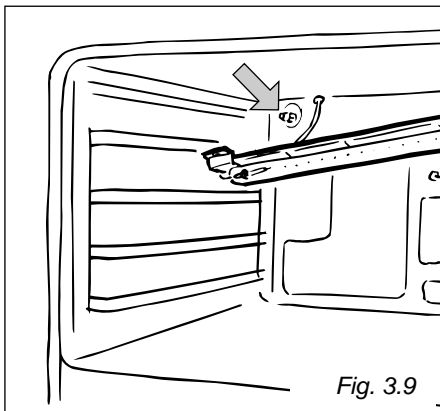

Fig. 3.9
- Using a 10 mm box spanner, unscrew the injector (indicated by the arrow in fig. 3.9) and replace with a new injector selected in accordance with the "TABLE FOR THE CHOICE OF THE INJECTORS"; then replace the burner repeating the above steps in reverse order.